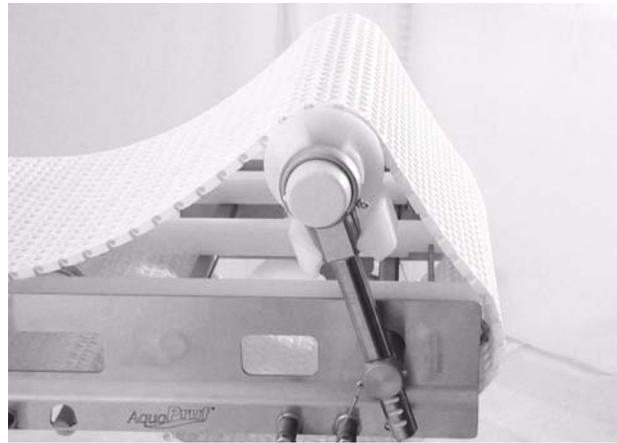

Figure 40
2. Tip up idler tail assembly (**Figure 40**).